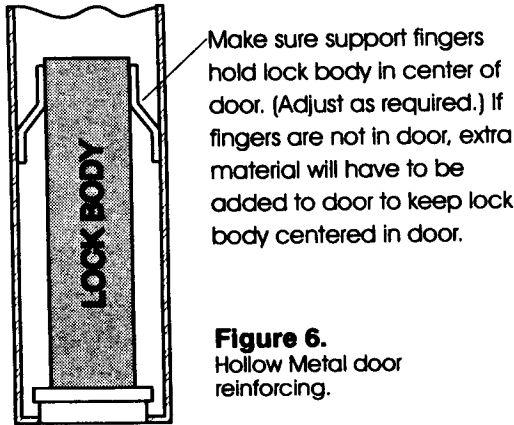

Figure 6.
IN HOLLOW METAL DOORS: Be sure that the support fingers, at back of Lock cavity, keep Lock Body centered in Door. See Section III Figure 6.
- a. Insert lock body into cavity in door and secure base front with two (2) #12 combination attaching screws. Make sure lock is positioned in cutout properly. (See Figures 6 and 7.)